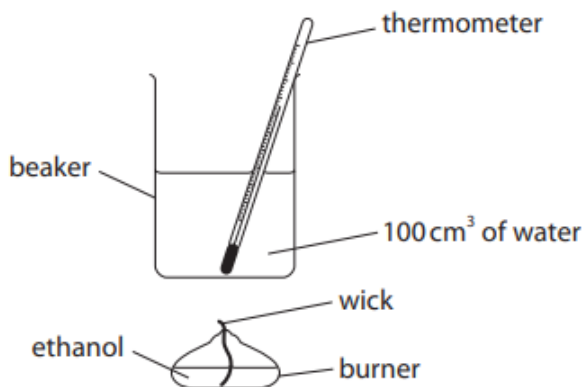

Figure 3
- (c) (i) The apparatus in Figure 3 can be used to investigate the temperature rise produced in a known mass of water when a sample of ethanol is burned.